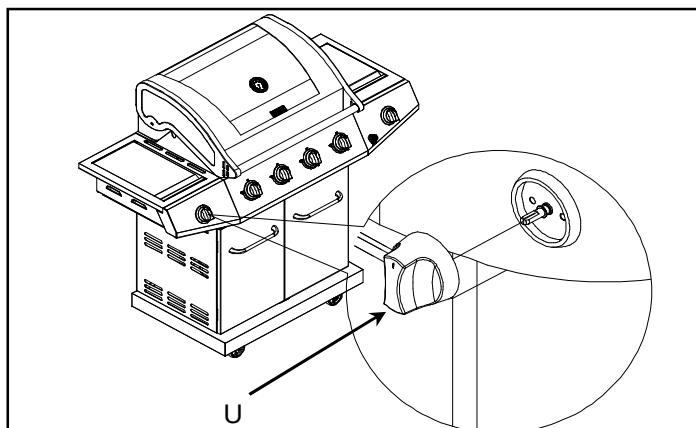

Fig.21
- (f) Plug ignition wire into igniter electrode hanging from the underside of burner. See Fig.21.